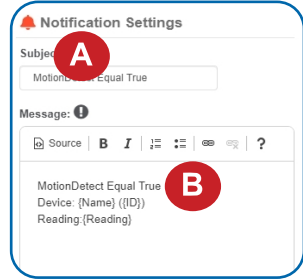

Figure 17
A. Input the subject for the notification. See Figure 17.
B. Customize the message body for the notification. See Figure 17.